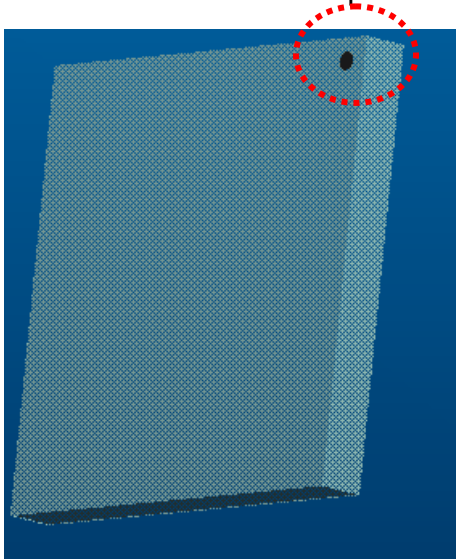

Fig. 1-6
- i. Front Glass UV coated surface (marked) must face to Lamp. (Fig. 1-6)